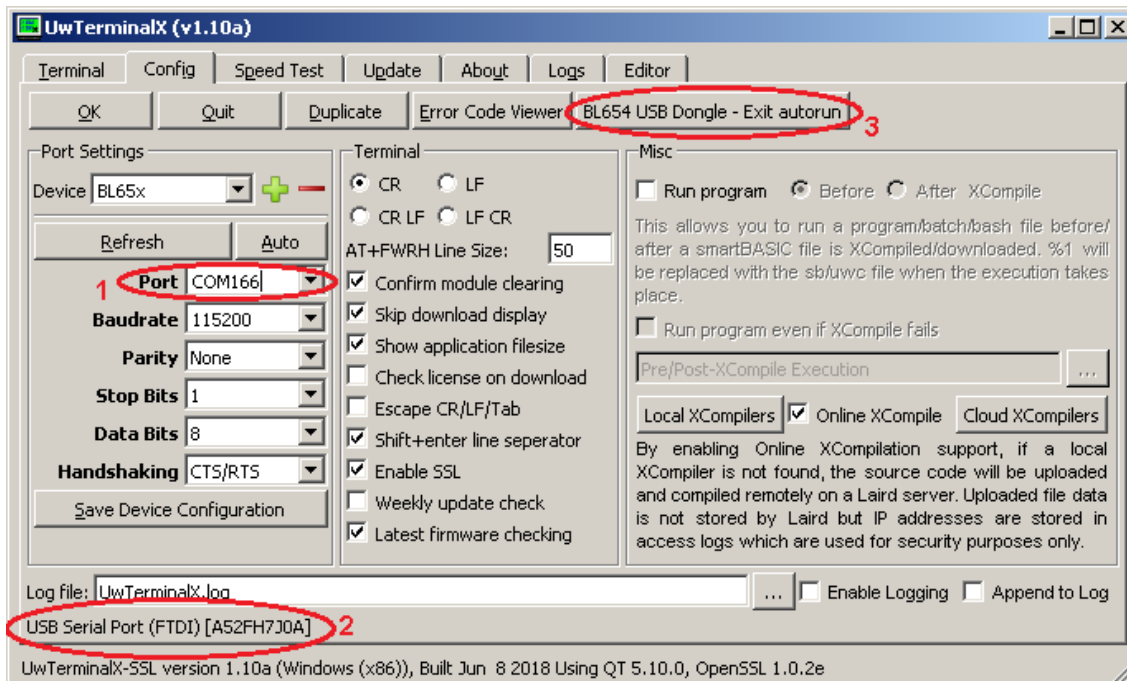

Figure 3: Getting ready to exit autorun mode
3. Open UwTerminalX and select the serial port of the USB dongle (1) (Figure 3).
4. Ensure that the description identifies it as an FTDI device (2), and then click **BL654 USB dongle – Exit Autorun** at the top of the window (3) (Figure 3).